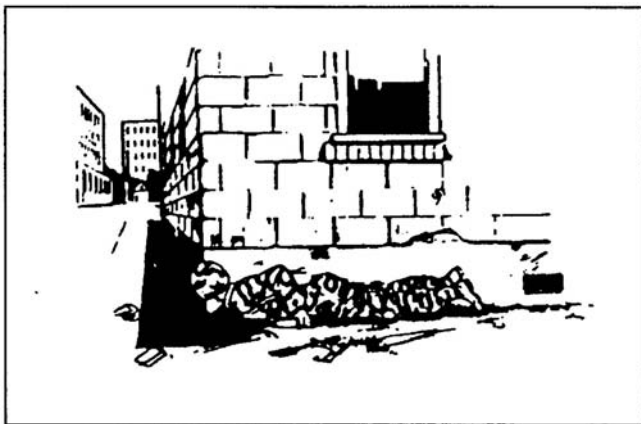

Figure 071-326-0541-1. Observing around a corner
- b.** Expose your head slowly at ground level so that it appears to be a shadow. Expose your head only enough to observe around the corner (figure 071-326-0541-1).